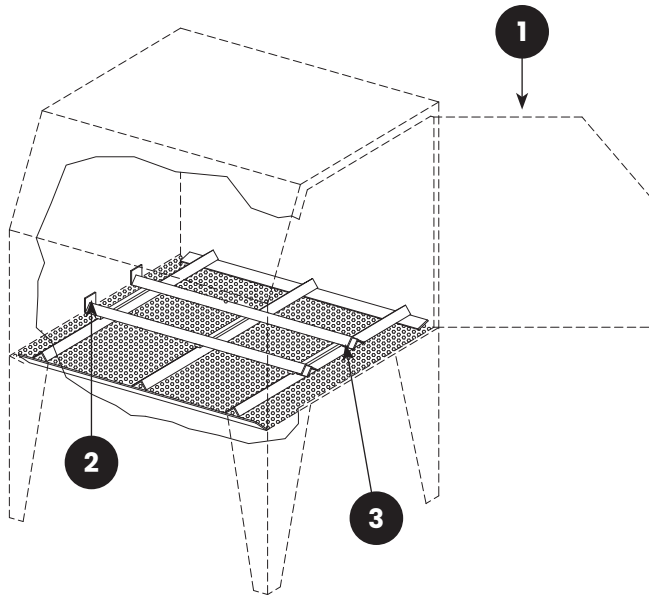

**FIGURE 3:** (1) Entry Door; (2) Stops; (3) Grate
the inside track, place it so the stops, shown in Figure 3, are opposite the entry door.
**2.3.2 |** Place the inside track in the cabinet over the existing grate, as shown in **Figure 3**.